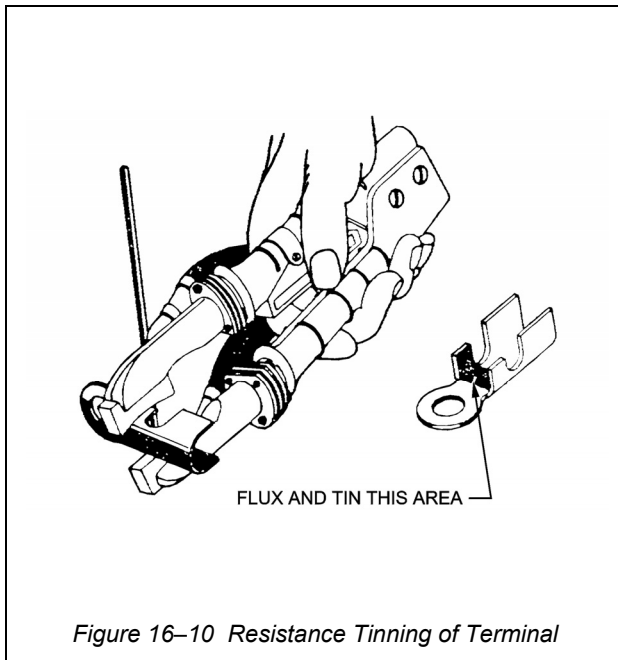

Figure 16-10 Resistance Tinning of Terminal
16. Tin only section of thermocouple terminals inside wire grip as shown in Figure 16-10. Terminals for silver soldering should not be plated.
- b. Using a torch or the resistance heating pliers, melt a thin coat of silver solder onto inside of wire grip. See Figure 16-10 for use of resistance heating pliers in this operation.
- a. Grasp terminal and wire assembly, prepared in accordance with Paragraph 17, at wire grip area. The resistance heating pliers are to be in the position shown in Figure 16-10.